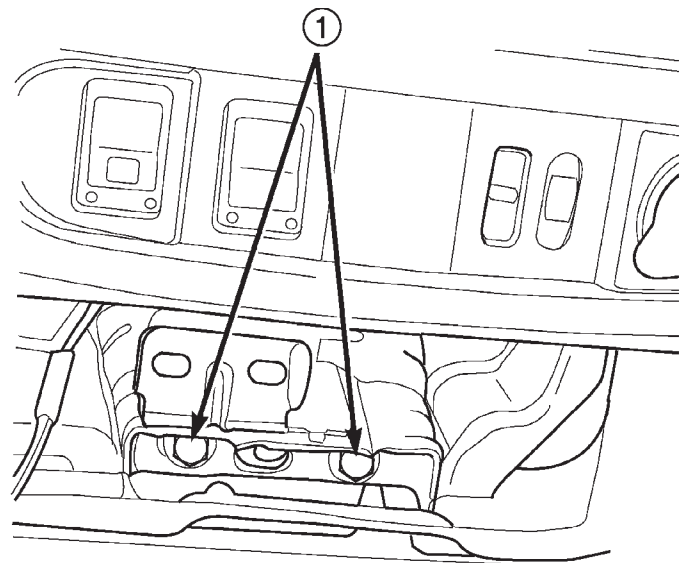

Fig. 19 Center I. P. Retaining Bolts
(4) Install the (2) I. P. retaining bolts which attach the I. P. to the body at the tunnel bracket (Fig. 19). Torque the bolts to 28 N·m (250 in. lbs.).
(5) Install the I. P. retaining fasteners on top of the I. P. Torque the nuts to 12 N·m (105 in. lbs.).
(6) Connect the radio antenna.
(7) Connect the left front door wire harness and reposition the sealing boot in its original position.
(8) Connect the right front door wire harness and reposition the sealing boot in its original position.
(9) Clip the wire harness along the center console and connect the airbag control module, parking brake and the PRNDL lamp if equipped.